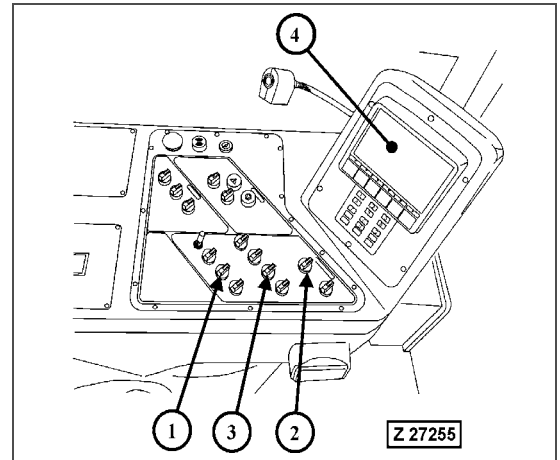

Fig. 3-118
If repairs under the above conditions have been carried out it is necessary to reset the control circuit of the lubrication system by actuating the rotary switch (1), Fig. 3-118 for a full lube cycle.